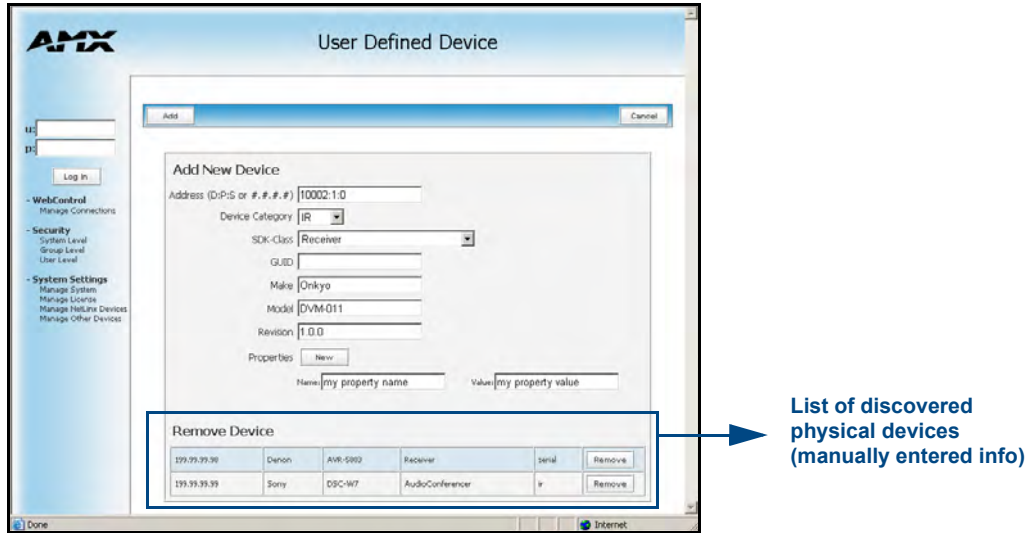

FIG. 70 Add New Device page
This page provides the ability to both add and remove any user-defined devices. Existing user-defined devices are listed at the bottom of the display along with a corresponding **Remove** button alongside each new entry. Although FIG. 70 shows a populated page, by default, all fields are blank and no devices are pre-populated.
- When the **Add** button is selected, the user-defined device is then inserted into the list of discovered physical devices which appears within the lower section of the display (FIG. 70).
- If the device is not DDD enabled and/or cannot be automatically discovered (ex. IR device) the installer must enter the device information into the Master via the User Defined Device Web page under manage Other Devices. (FIG. 70 on page 108)